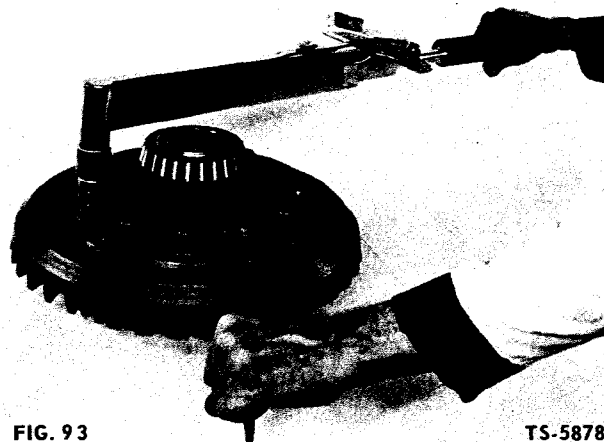

FIG. 93
3. Align matchmarks; install ring gear. Install bolts so internal diameter of ring gear prevents turning of hex head. Install ring gear bolt nuts and tighten per torque specifications (Fig. 93).